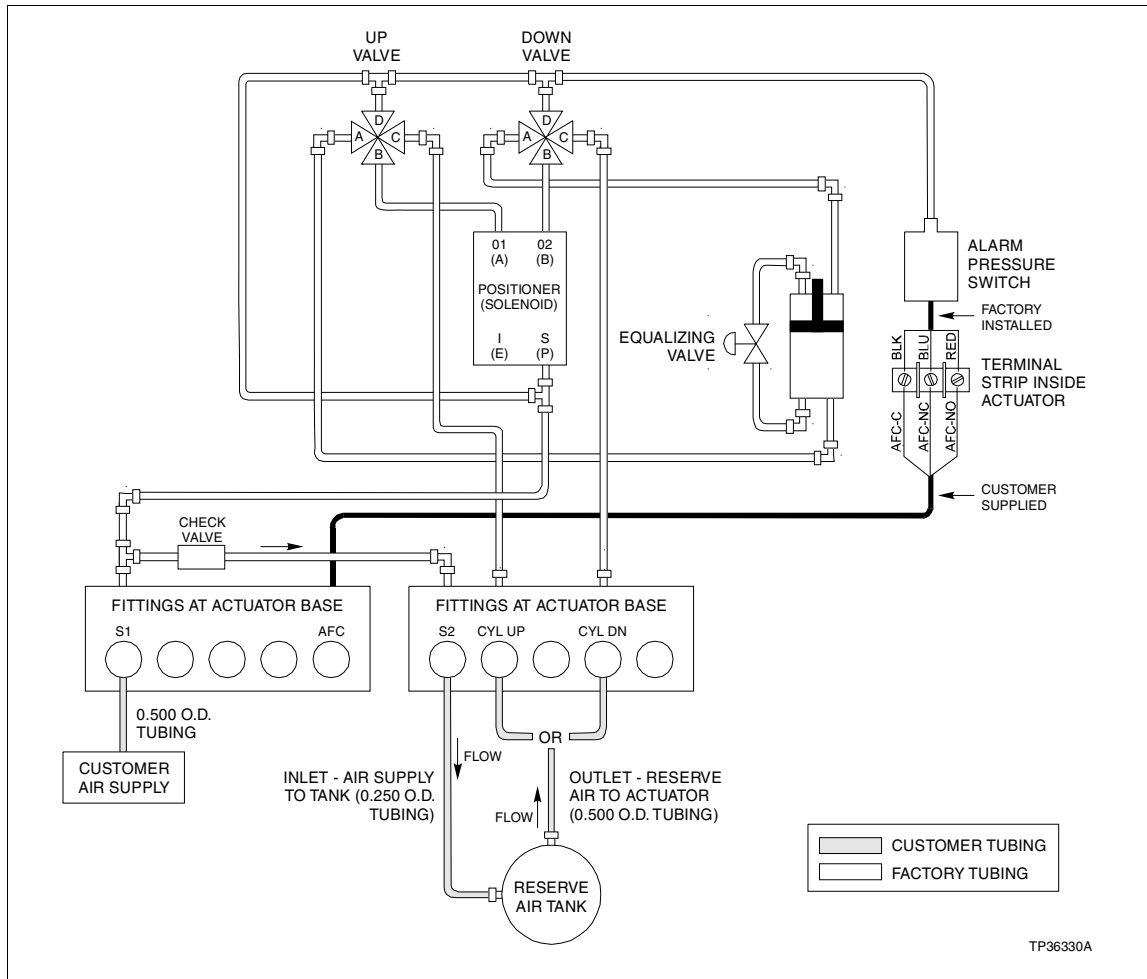

Figure 3-13. Reserve Air Tank Tubing for Types UP3 through UP6 Actuators
NOTE: Refer to Figures 3-13, B-12 and B-13.
7. Make the connections to the proper points on the terminal strip as shown in Figure 3-13.